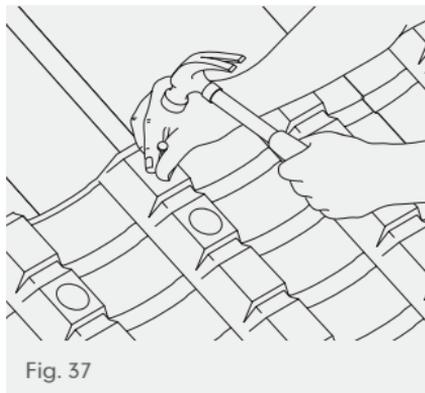

Fig. 37
- 2 Pull and adjust to correct rafter centres and twice nail to top of each rafter, using 25mm long aluminium nails (Fig 37).